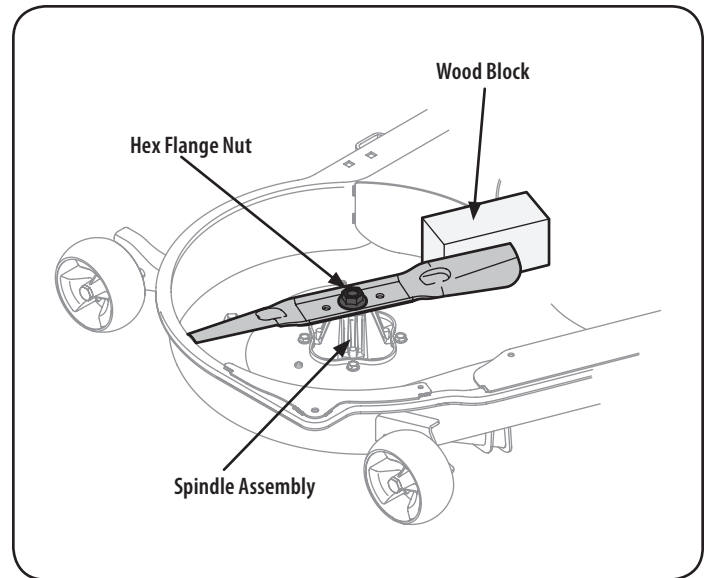

Figure 38
2. Use a $1\frac{1}{16}$ " wrench to hold the hex nut on top of the spindle assembly when loosening the hex nut securing the blade. A block of wood may be placed between the deck housing and the cutting edge of the blade to help in breaking loose the hex nut securing the blade. See Figure 38.